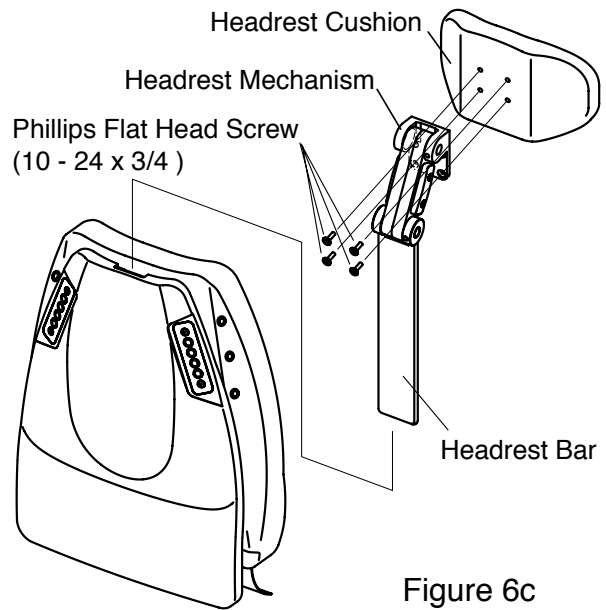

Figure 6c
10) Attach headrest cushion to headrest mechanism using 4(10-24 x 3/4) phillips flat head screws and slide headrest bar into opening in top of backrest. (See Figure 6c)